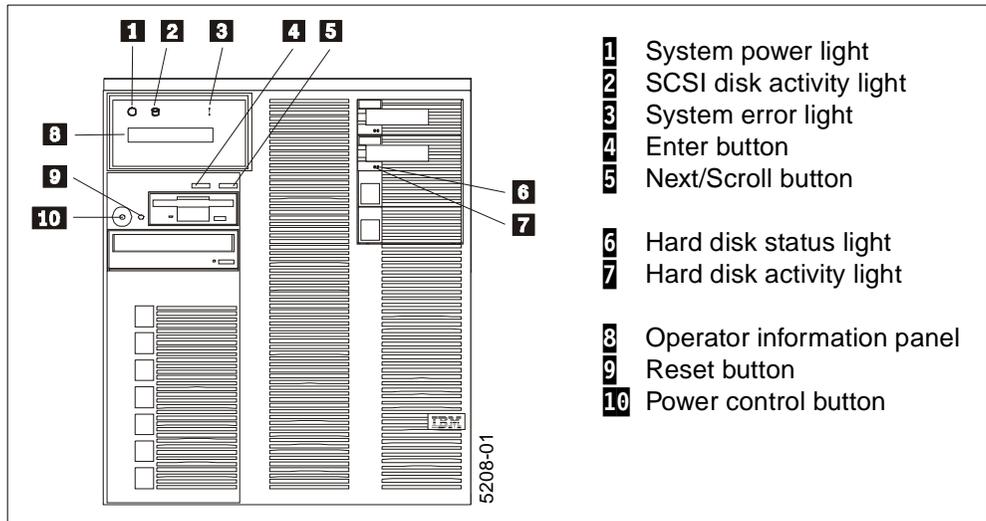

Figure 92. Netfinity 7000 M10 Front View
The controls and indicators on the front of the server are shown in Figure 92 on page 128:
The system error light (3) in Figure 92) is an amber light and is lit when a system error occurs. When this is lit, the details of the error are displayed on the information panel.
The server also has a set of press buttons that let you select an action (Next button, **5** in Figure 92 on page 128) and to perform the action (Enter button, **4** in Figure 92) on a system monitoring message. You can select:
- **Keep** to retain the message on the information panel and leave the system error light (**3** in Figure 92) flashing normally.
The system power light (**1** in Figure 92 on page 128) indicates the status of system power:
The SCSI hard disk activity light (2 in Figure 92 on page 128) shows the disk activity of the on-board SCSI controller. In addition, each disk drive has two LEDs:
1. Green activity light (7 in Figure 92 on page 128): When it is lit, the drive is in use.